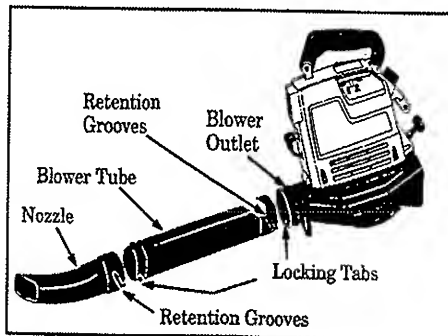

Figure 1
1. Locate the two locking tabs on the side of the blower tube. Figure 1.
4. Align retention grooves on the blower tube with the locking tabs in the blower outlet and push the blower tube into the blower outlet. Figure 1.